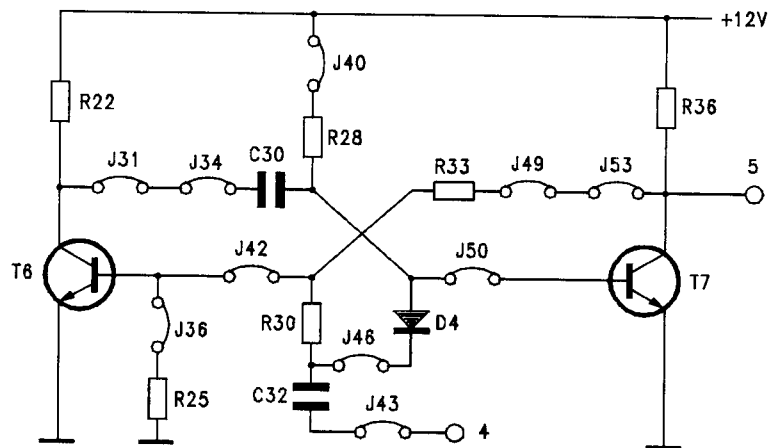

fig. B38.6
- From last circuit insert jumper J46 to produce the circuit of figure B38.6.